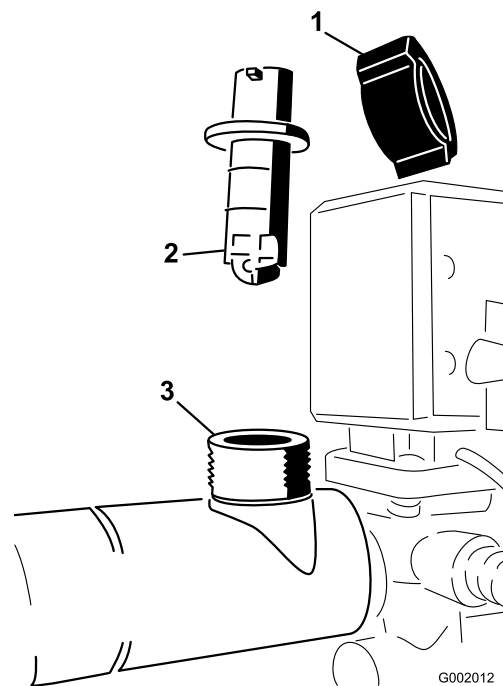

Figure 71
2. Remove the retaining cap from the flowmeter body (Figure 71).